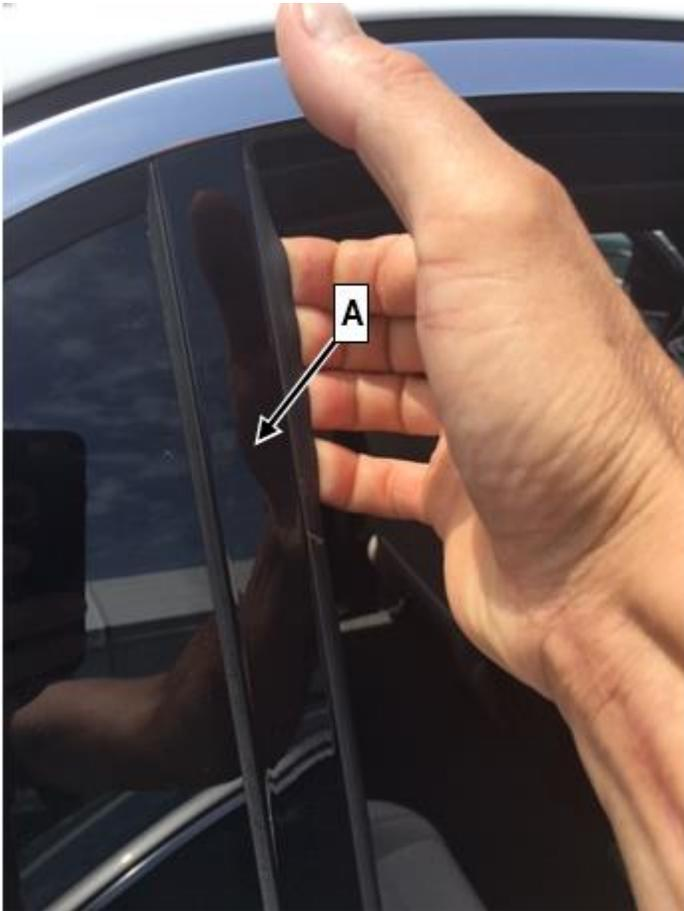
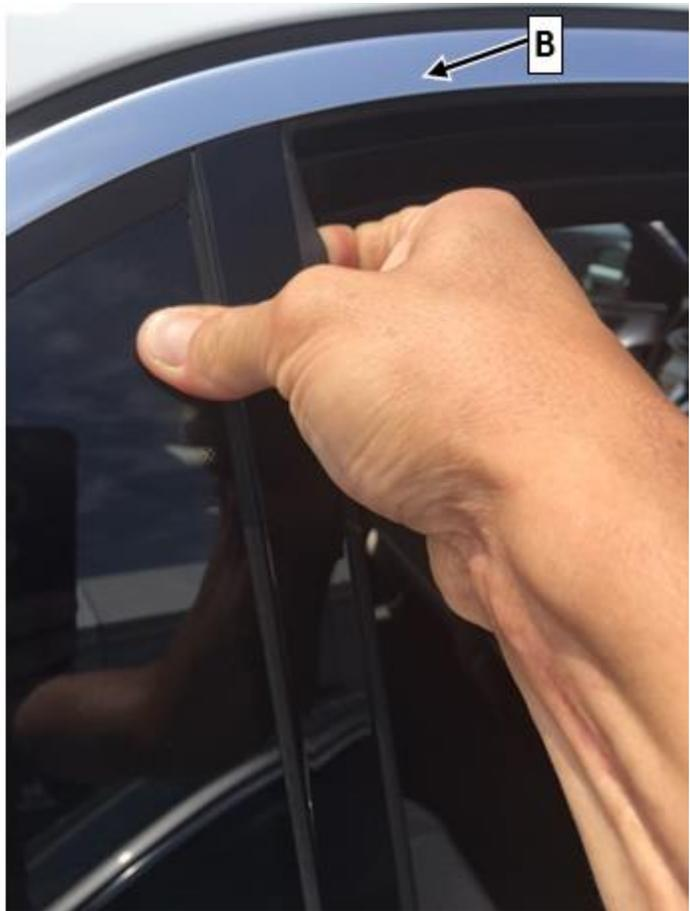

Figure 1
Figure 2
2. Check whether right and left window dividers (A, Figure 1) are seated tightly.
- i** To do so, grasp the window divider in the upper area with your hand (Figure 1) and support it with your thumb on the fixed window (see Figure 2). Then pull the window divider outward carefully (**approx. 100 N / 22.5lbs of force**) and check whether it is seated tightly.
- Ensure that the window divider is **not** jammed under the trim bar on the window frame (B, Figure 2). This could cause a test error with regard to the holding ability of the trim element on the window divider. A gap of 1 mm from the window divider (A) to the window frame (B) is normal.